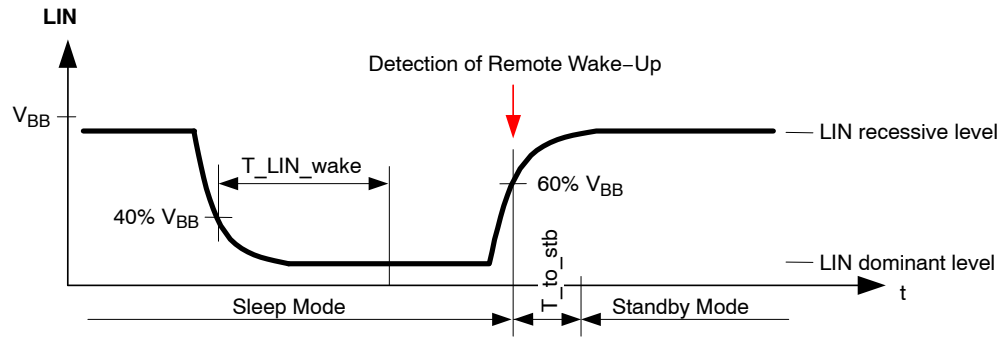

Figure 5. Remote (LIN) Wake-up Detection
- Remote (or LIN) wake-up – when LIN bus is externally driven dominant during longer than  $T_{LIN\_wake}$  and a rising edge on LIN occurs afterwards – see Figure 5.